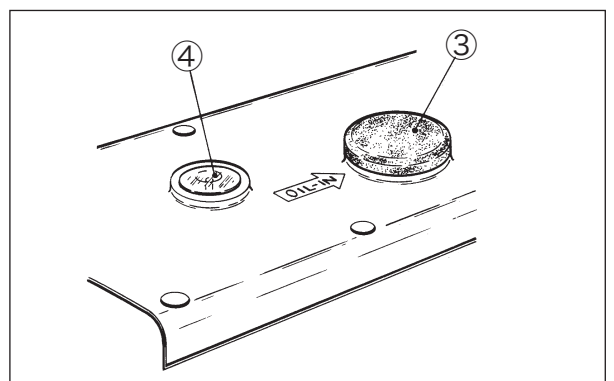

Fig. 4-3
Remove the seal plug ③ indicated “OIL” and supply oil to the upper line of the oil sight gauge ⑤. (Figs. 4-3, 4-4)
Check that oil splashes from the nozzle inside the oil sight window ④ while running the machine. (Fig. 4-3)